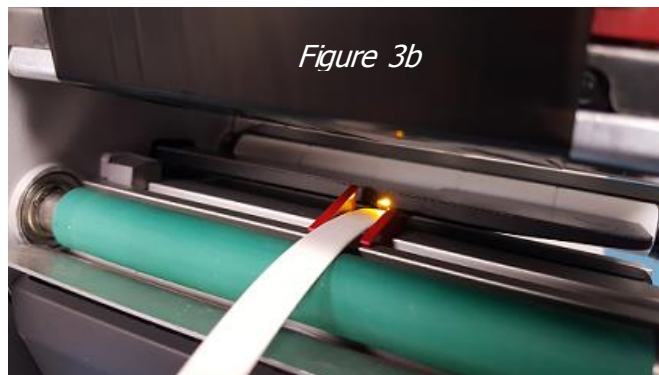

Figure 3b
4. Line up the back of the cutter with the mounting points on the printer. See *Figure 3b*
6. Slide the sensor out over the tubing so that the amber LED is directly over the tubing. See Figure 3b